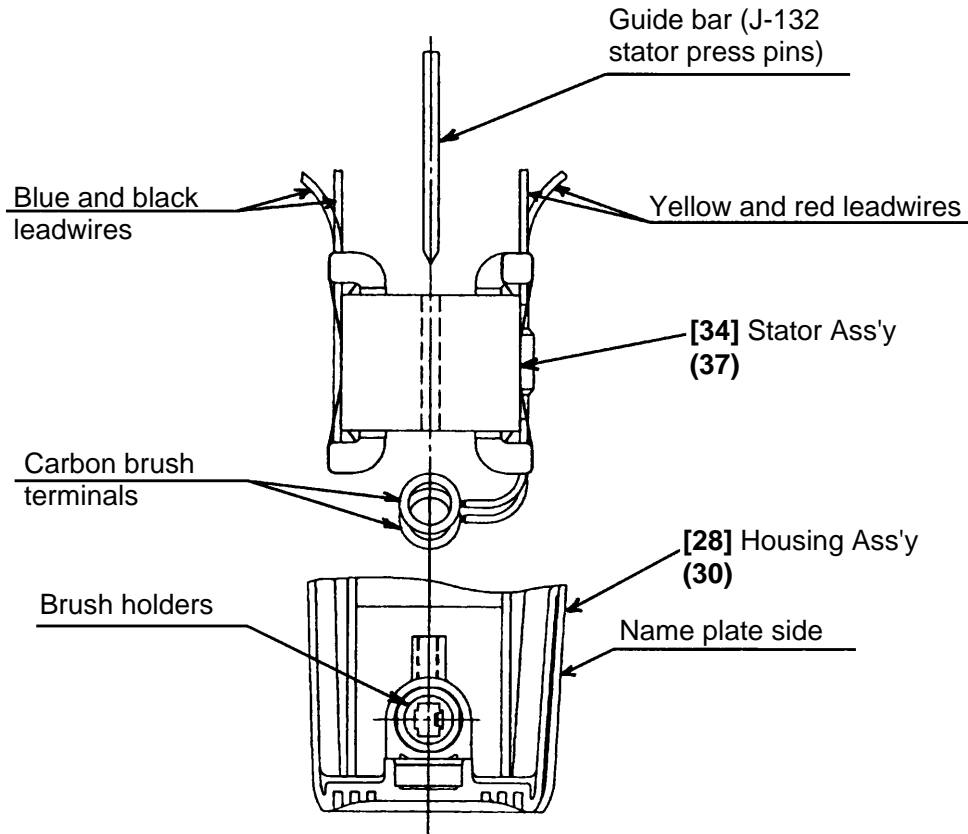

Fig. 8
(4) Reassembly of the Stator Ass'y [34] (37)
Insert the guide bar [the J-132 stator press pins (special repair tool, Code No. 970911) are recommended] into the screw holes of the Stator Ass'y [34] (37) and the Housing Ass'y [28] (30) to align them accurately and then press-fit the Stator Ass'y into the Housing Ass'y as shown in Fig. 8. Carefully observe the alignment of the Stator Ass'y during the press-fitting so that the yellow and red leadwires face to the Name Plate side as shown in Fig. 9. Then fit the carbon brush terminals on the Brush Holders [42] (45) taking care not to catch the leadwires between the ribs of the Stator Ass'y in the Housing Ass'y. Fix the Stator Ass'y to the Housing Ass'y with the two D5 x 55 Hex. Hd. Tapping Screws [53] (55).